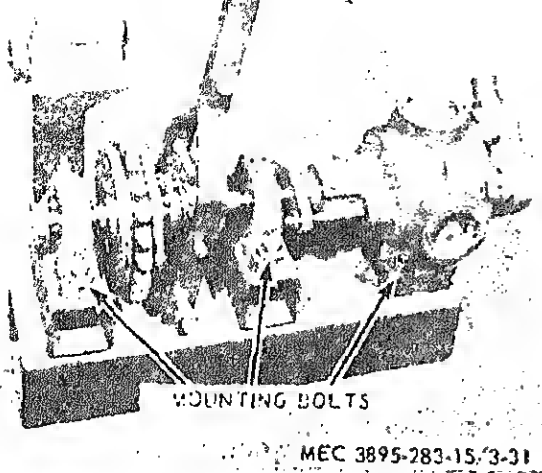

Figure 3-31. Asphalt Pump Removal.
- (1) Disconnect pipe couplings (fig. 3-31).
- (2) Loosen idler on drive chain.
- (3) Remove master link from chain and remove chain.
- (4) Remove drive belt to counter.
- (5) Remove eight mounting screws (4 pump base, 2 each bearing) and lift assembly from mounting base.
- (6) Remove outside bearing, clutch and inside bearing from pump shaft.
- (1) Remove drive belt to counter (fig. 3-31).
(2) Remove four (4) screws mounting counter to base.
- (3) Lift counter from base.